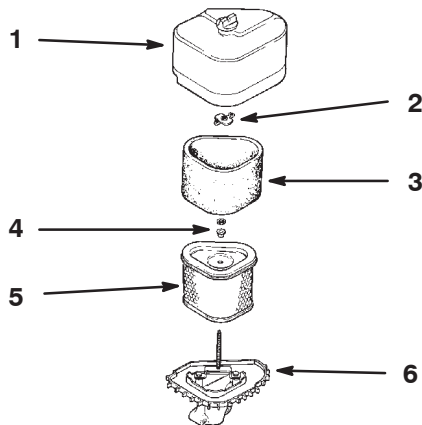

Figure 16
2. Clean around the air cleaner cover to prevent dirt from getting into the engine and causing damage. Unlatch cover (Figure 16).
3. Carefully slide the foam element off the paper element (Figure 16).
4. Remove the air cleaner assembly (Figure 16).
5. Unscrew the cover nut and remove the cover and paper element (Figure 16).
1. Carefully slide the foam element onto the paper air cleaner element (Figure 16).
2. Place the air cleaner assembly onto the air cleaner base (Figure 16).
3. Install the air cleaner cover and secure with cover nuts (Figure 16).